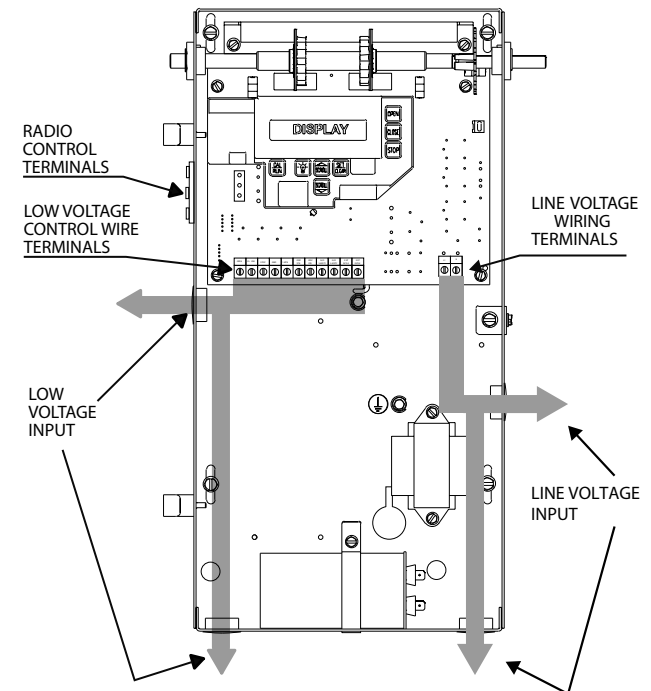

Fig. 4C Wiring to AOM
1. Route control wiring as per Fig. 4C.
NOTE: If wiring connected to the Lamp or ADA Outputs applies low voltage class 2 voltages/currents, route the wiring with control wiring shown in left side of Fig 4C. If wiring connected to these outputs applies line voltage, route the wiring as shown in right side of Fig 4C.